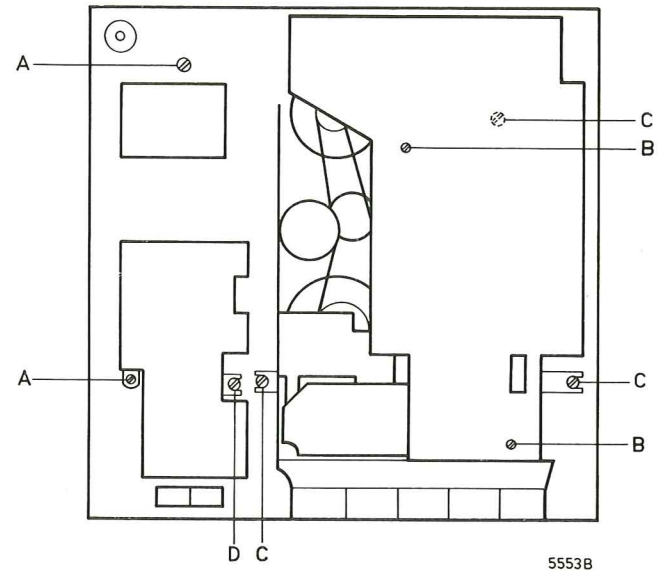

Fig. 2
I. DEMONTERING AF KABINET (Fig 2)
II. UDSKIFTNING AF SNEKKEAKSEL PÅ OPTAGEKONTROL (Fig 2)